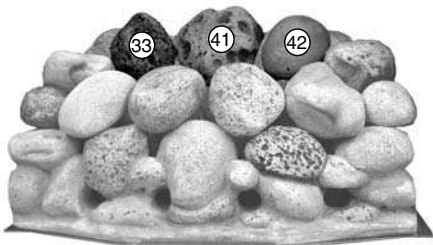

Fig. 30
5. Place the remaining three loose pebbles in line on the next row up, again making sure all the gaps are even. It is important that the pebbles 'bridge' the peaks of the fuel bed and are not placed in between. This helps the flow of burnt gases and should give an even glowing fuel bed (Fig. 30).